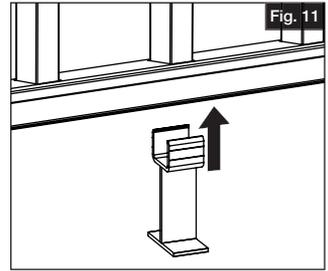

Fig. 11
- a. Two support braces are included with 6' railing kits. For code purposes, only one is required for installations in the U.S., while both are required in Canada. Spread out the braces proportionately (Fig. 11).